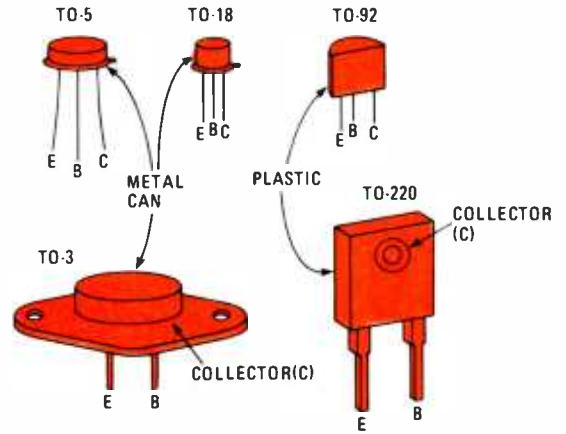

Fig. 11—Transistors use various packaging. These are among the types most commonly used.
24. (emitter, base, collector) Transistors are packaged in a variety of housings. Some of the more common ones are shown in Fig. 11. The TO-5, TO-18, and TO-92 packages are for small-signal applications, while the TO-3 and TO-220 packages are used in high-power applications.